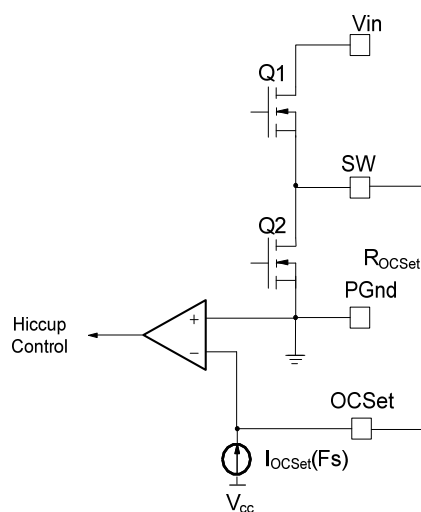

Fig. 7. Connection of over current sensing resistor
The over current protection is performed by sensing current through the  $R_{DS(on)}$  of low side MOSFET. This method enhances the converter's efficiency and reduces cost by eliminating a current sense resistor. As shown in figure 7, an external resistor ( $R_{OCSet}$ ) is connected between OCSet pin and the switch node (SW) which sets the current limit set point.